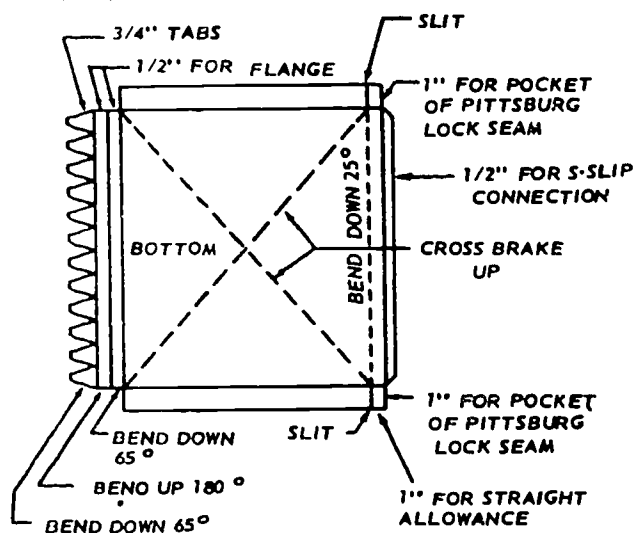

Figure 2-20. Making allowances for S-and-drive connections, Pittsburgh lock seams, and tapped connections.
**Making a flat pattern.** From the information shown in figure 2-19, it is not difficult to develop the flat patterns shown in figure 2-20. You should remember from the sheet metal layout chapter in Volume 3 that the first step is to draw a plan view with the dimensions, as shown in figure 2-20. From the plan view, you develop the pattern (stretchout) by the parallel line method (except for the slanting sides). The pattern for the top and sides is in one piece because you will use two Pittsburgh lock seams to join the bottom piece. Lay out flat pattern A by drawing a straight line (stretchout) equal to the perimeter of the top and two sides. Next, draw the two perpendicular element lines where the corners of the joint will be folded. The length of the upper stretchout line in view A is equal to the perimeter of the 12- by 6-inch opening of the transition. With the ends of the two stretchout lines connected, you can determine the length of the slanting sides (true length). Flat pattern B for the bottom of the takeoff fitting is the same length as the slant length of the side that it will join.
**Making allowances.** After you have laid out the flat patterns, the next step is to determine the seam allowances and additions, shown in figure 2-20. This includes the allowances and for the S-and-drive slip connections, the Pittsburgh lock seams, and the tapped connection. It doesn't make any difference which allowance you develop first. We have elected to develop the allowances for the S-and-drive slips first. They require a 1/2-inch allowance on both patterns. You make the allowance for the Pittsburgh lock seams by allowing 1/4 inch on each of the slant sides in pattern A (fig. 2-20) and 1 inch on two sides of pattern B. Make the allowance
**Notching.** After you have determined and marked the allowances, cut the notches and slits, as indicated on patterns A and B of figure 2-20. Each notch that forms a 3/4 inch tab requires two cuts and is placed 1 inch apart in this example. However, in other patterns, the length of each tab may be less or greater depending on the strength desired, on the size of the takeoff fitting, and on the effort needed to reach and turn down the tabs after you have joined the fitting to the duct. Notice that each end of the S-and-drive connection allowance is notched with a 45° cut. The ends of the Pittsburgh lock seam pocket allowance in pattern B are notched (cut) at 90° angles.
**Forming** You can make all of the bends indicated in figure 2-20 with a cornice brake, a mallet, and a Pittsburgh lock-forming machine. It is important to follow the proper sequence for making the bends so the top leaf of the cornice brake will not crush a fold already made. For example, cross brakes are always made first, but the sequence of other bends may vary depending on the shape and direction of the bends. A sequence that works in most cases for square or rectangular duct components is as follows: (1) make the cross brake, (2) bend the side allowances according to the seam procedure, (3) bend the end allowances according to the procedure for the type of joint, and (4) make the corner bends indicated on the pattern.
To make the bends for the takeoff fitting (fig. 2-20), the first step is to do the prescribed cross bracing. Pattern A (piece A) is placed in the cornice brake so that the metal is at a 45° angle to the top leaf, the metal is clamped with the top leaf, and the bending leaf is raised 10° to 15°. Repeat this procedure along the other cross brake lines.
The third step for piece A (fig. 2-20) is to make the bends that will be at the two ends of the takeoff fitting. Make the bends for the tapped connections with the cornice brake, as described in the next paragraph.
Step 4 of the forming process for piece A in figure 2-20 is to use the cornice brake to make the two 90° corner bends. Make the first corner where the top side and the left side meet, with the pattern positioned at the left end of the cornice brake. This prevents damaging the flange of the tapped connection. Next, bend the 90° corner, where the top side and the right side meet, in the same way. This is the final step for piece A, which should now look like a finished takeoff except for the sloping bottom, not yet in place.
Pattern B (piece B), the bottom of the takeoff (fig. 2-20), is formed by a similar sequence. The first step is cross braking the pattern along the diagonal lines. The second step is making the pocket side of the Pittsburgh lock seams on the 1 inch allowance on each side of the bottom piece. Do this with a Pittsburgh lock-forming machine if available; if not, with a cornice brake. The third step is forming the flange for the tapped connection end of the takeoff. You must make a 25° bend downward along the straight allowance line, returning the bottom to the same plane as the duct branch. When you are making this 25° bend, do not use excessive clamping pressure with the top leaf of the
*Assembly and joining.* The takeoff fitting, which we have discussed in the preceding paragraphs, is easy to assemble. Place piece A (fig. 2-20) so that it rests on the top side. Install the bottom piece (B) so that the 1/4 inch flanges of the two sides fit into the pockets of the Pittsburgh seam, and the locking edges of the Pittsburgh seam are folded over. This completes the assembly, and you can join the takeoff fitting to the hole in the trunkline by inserting the tabs into the hole until the flange rests against the edges of the hole. Bend the tabs